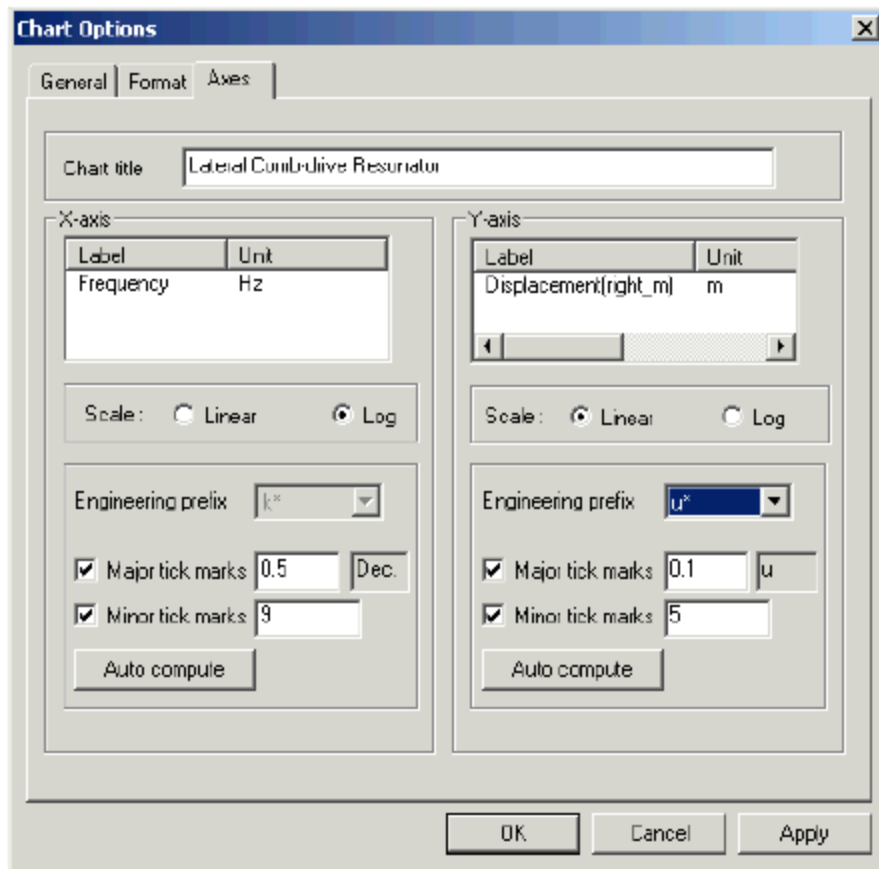

Figure 14: Chart Options dialog
- ✂ In the **Y-axis** list, remove the information that appears and enter **Displacement(right_m)** under **Label**, and **m** under **Units** (Figure 14).